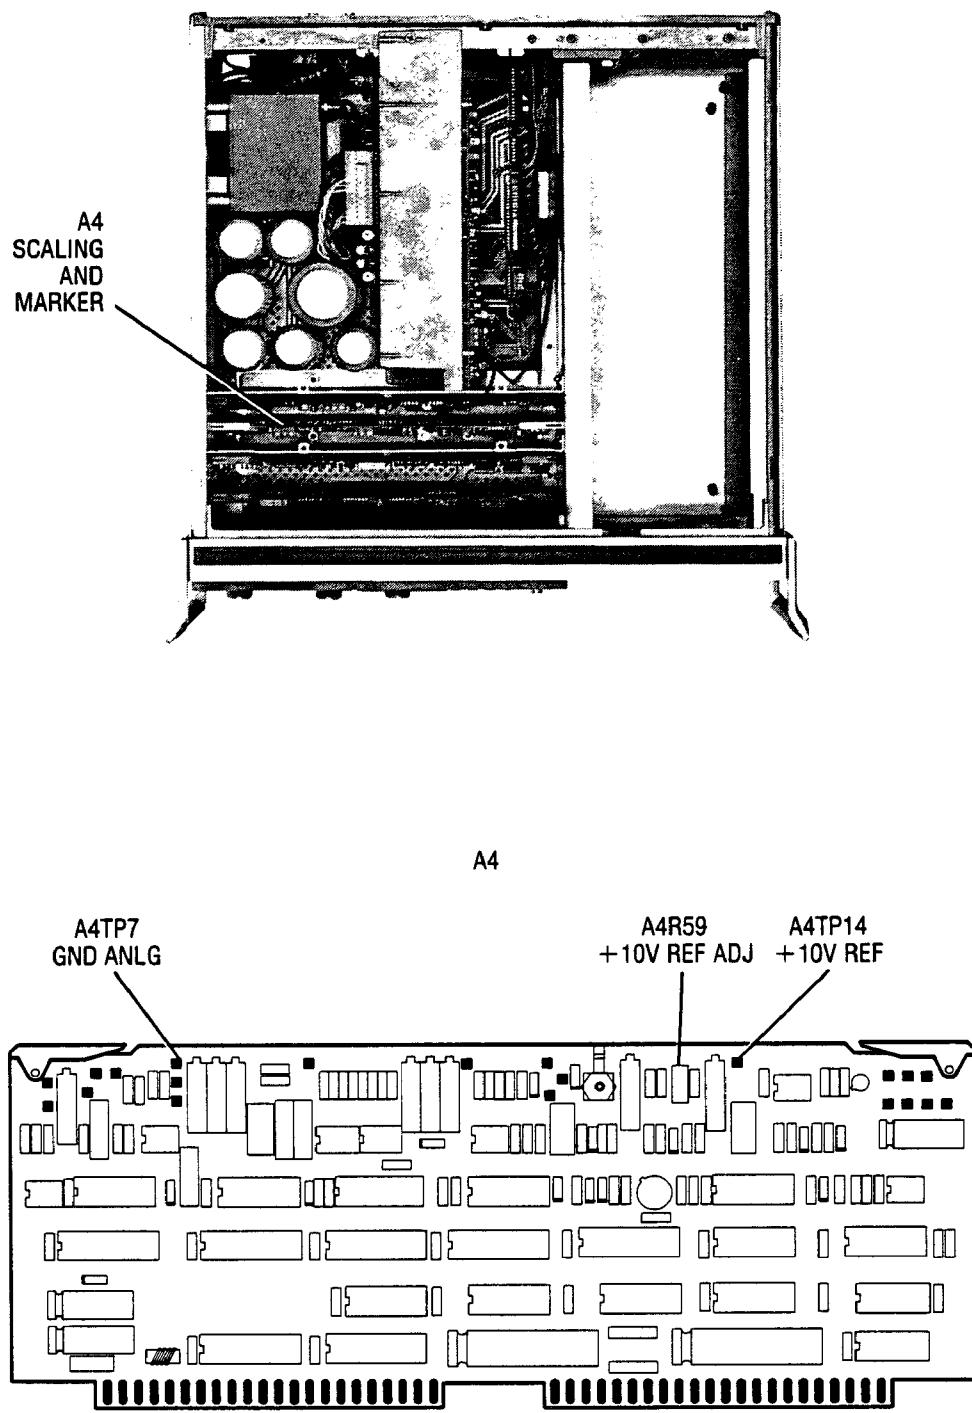

Figure 5-7. Location of +10V REF DAC Power Supply Adjustments
5. Adjust A4R59 (+10V REF ADJ) for a DVM reading of  $10.0000 \pm 0.0001$  VDC. Refer to Figure 5-7 for location of adjustment.